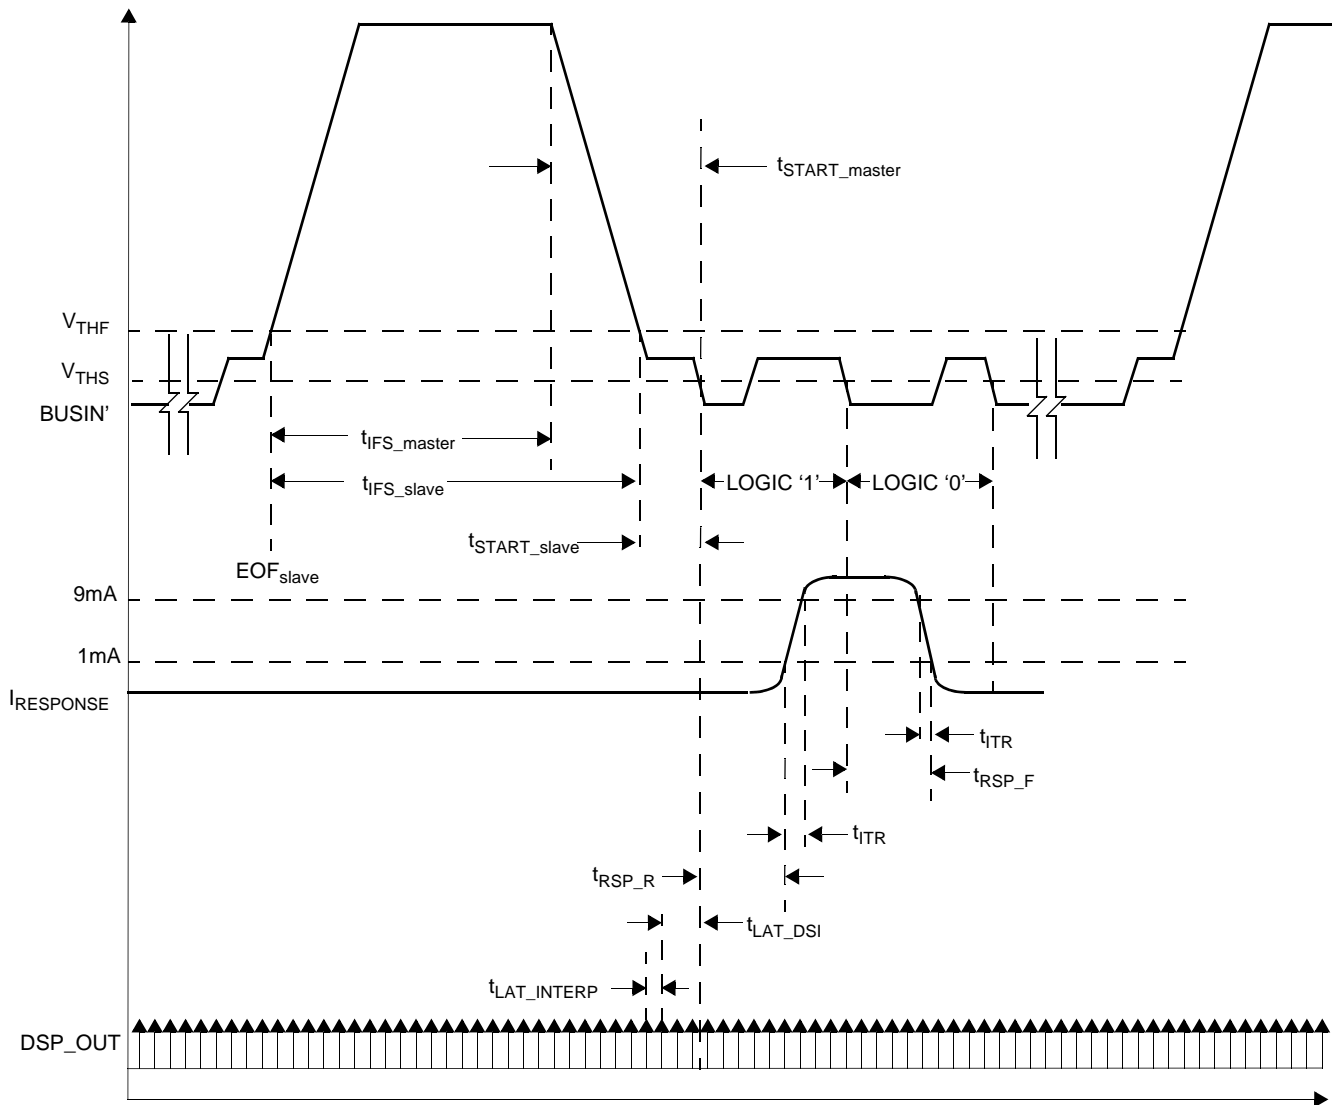

Figure 8. DSI Bus Inter-frame Timing
| 109 | Inter-frame Separation Time (See Figure 8)Following Read Write NVM Command   | $t_{IFS}$               | 2             | —                 | —                 | ms          | (7) |